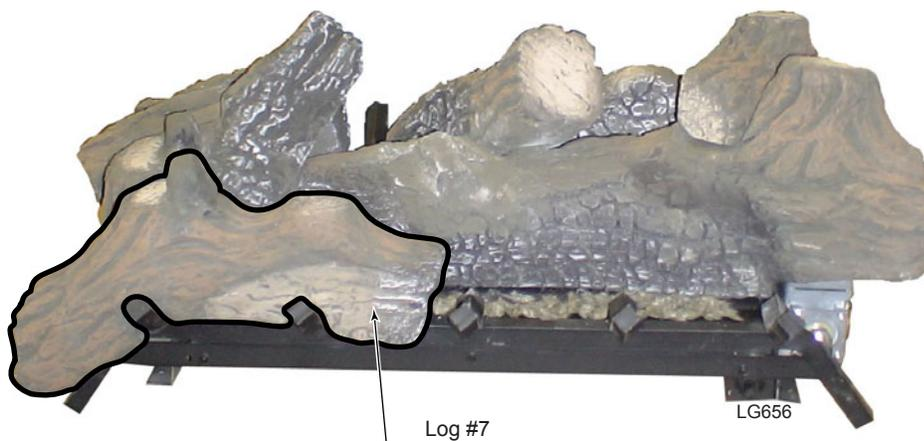

Figure 24 - Place Log #7
- 7. Place log #7 on left two (2) grate tines by aligning the 'V' notch in log with grate tines. Make sure groove on bottom of log is firmly seated on grate bar. *Figure 24*